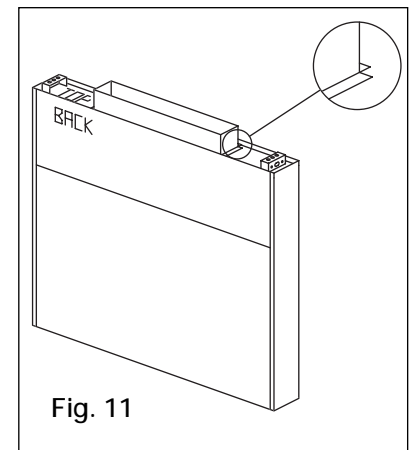

Fig. 11
4. Place the duct collar(s) over the opening, fastening with screws or tack welds every four to six inches. (see Fig. 11)